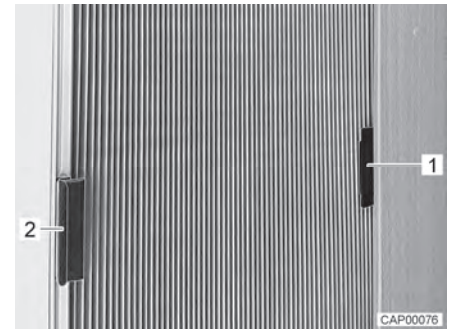

Fig. 3 Roman shade for side pane (closed)
- Push the handle (Fig. 3,1) of the Roman shade into the cap (Fig. 3,2). Thus, the Roman shade is secured against closing involuntarily.